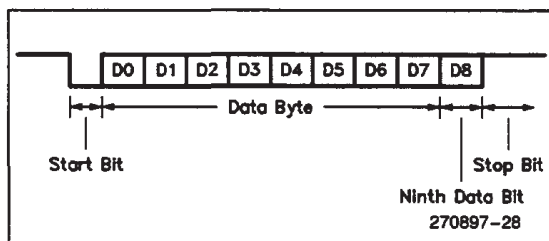

Figure 26. Mode 2 Data Frame
Mode 2: 11 bits are transmitted (through TXD) or received (through RXD): a start bit (0), 8 data bits (LSB first), a programmable 9th data bit, and a stop bit (1). On Transmit, the 9th data bit (TB8 in SCON) can be assigned the value of 0 or 1. Or, for example, the parity bit (P in the PSW) could be moved into TB8. On receive, the 9th data bit goes into RB8 in SCON, while the stop bit is ignored. (The validity of the stop bit can be checked with Framing Error Detection.) The baud rate is programmable to either 1/32 or 1/64 the oscillator frequency. See Figure 26.